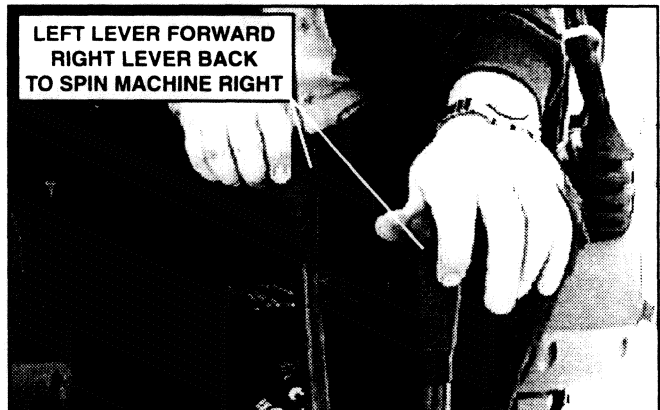

FIGURE 3.29
- b. Pull R.H. Travel Lever BACK and Push L.H. Travel Lever FORWARD to spin machine to the RIGHT. See Figure 3.29.